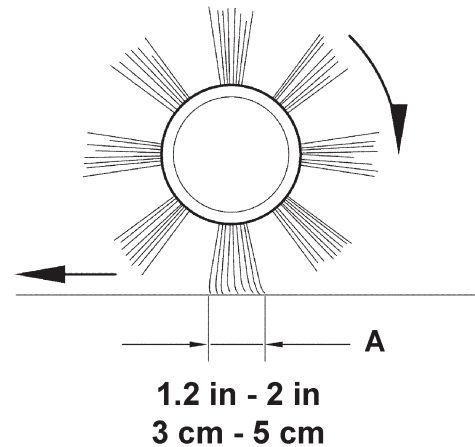
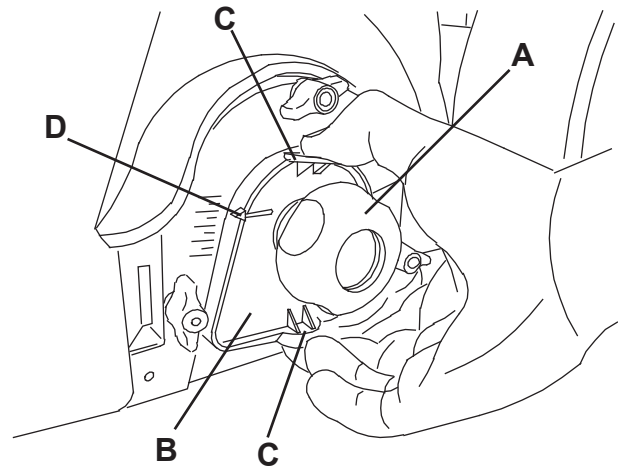

Figure 3
Figure 4
- Turn off the main broom by pressing the switch (1), then move the machine.
- Check that the main broom print (A, Fig. 3), along its length, is 3-5 cm wide.
2. Turn the main switch (1) to "0".
3. On both sides of the machine, loosen the knob (A, Fig. 4).
4. Grasp the support (B) on the points (C) and move it upwards, then lift it or lower it to change the main broom height. For height variation, refer to the indicator (D). Then tighten the knob (A) on both sides of the machine.